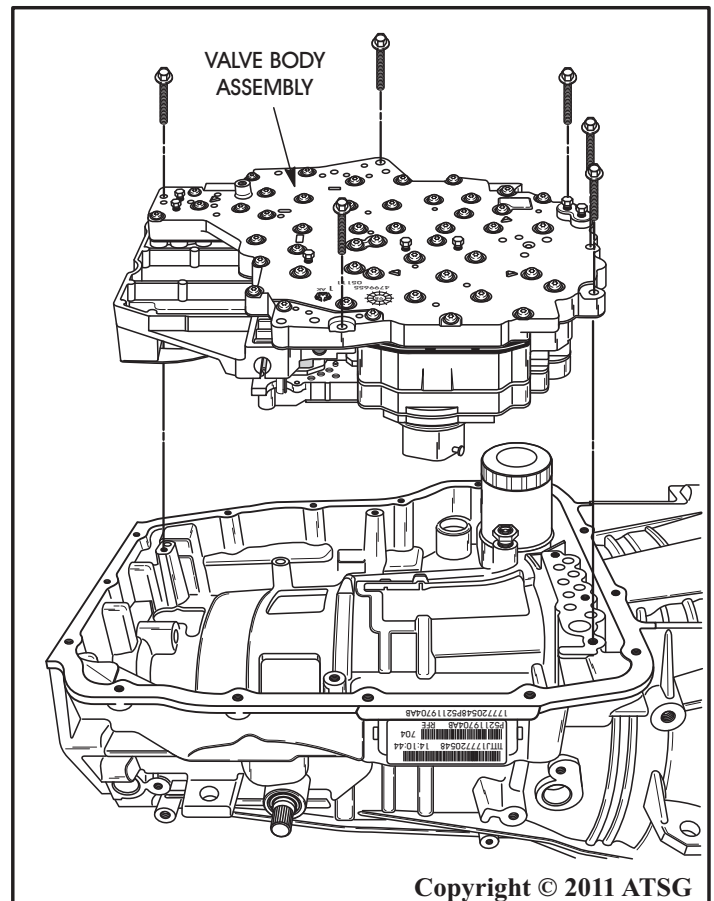

Figure 41
16. Remove the six valve body retaining bolts using 8mm socket, as shown in Figure 41.
17. Remove the complete valve body and the TRS/Solenoid body as an assembly, as shown in Figure 41, and set aside for component rebuild section.